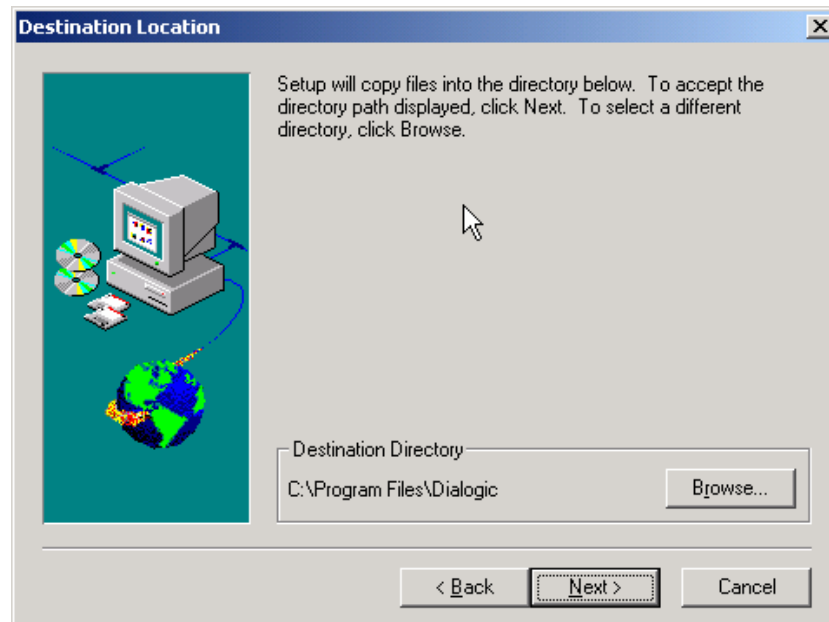

Figure B.9. Choosing a Location for the Installed Files
5. The **Destination Location** dialog box will appear, as shown in **Figure B.9**. Click the **Browse** button to select a directory for installation. Click **Next**.